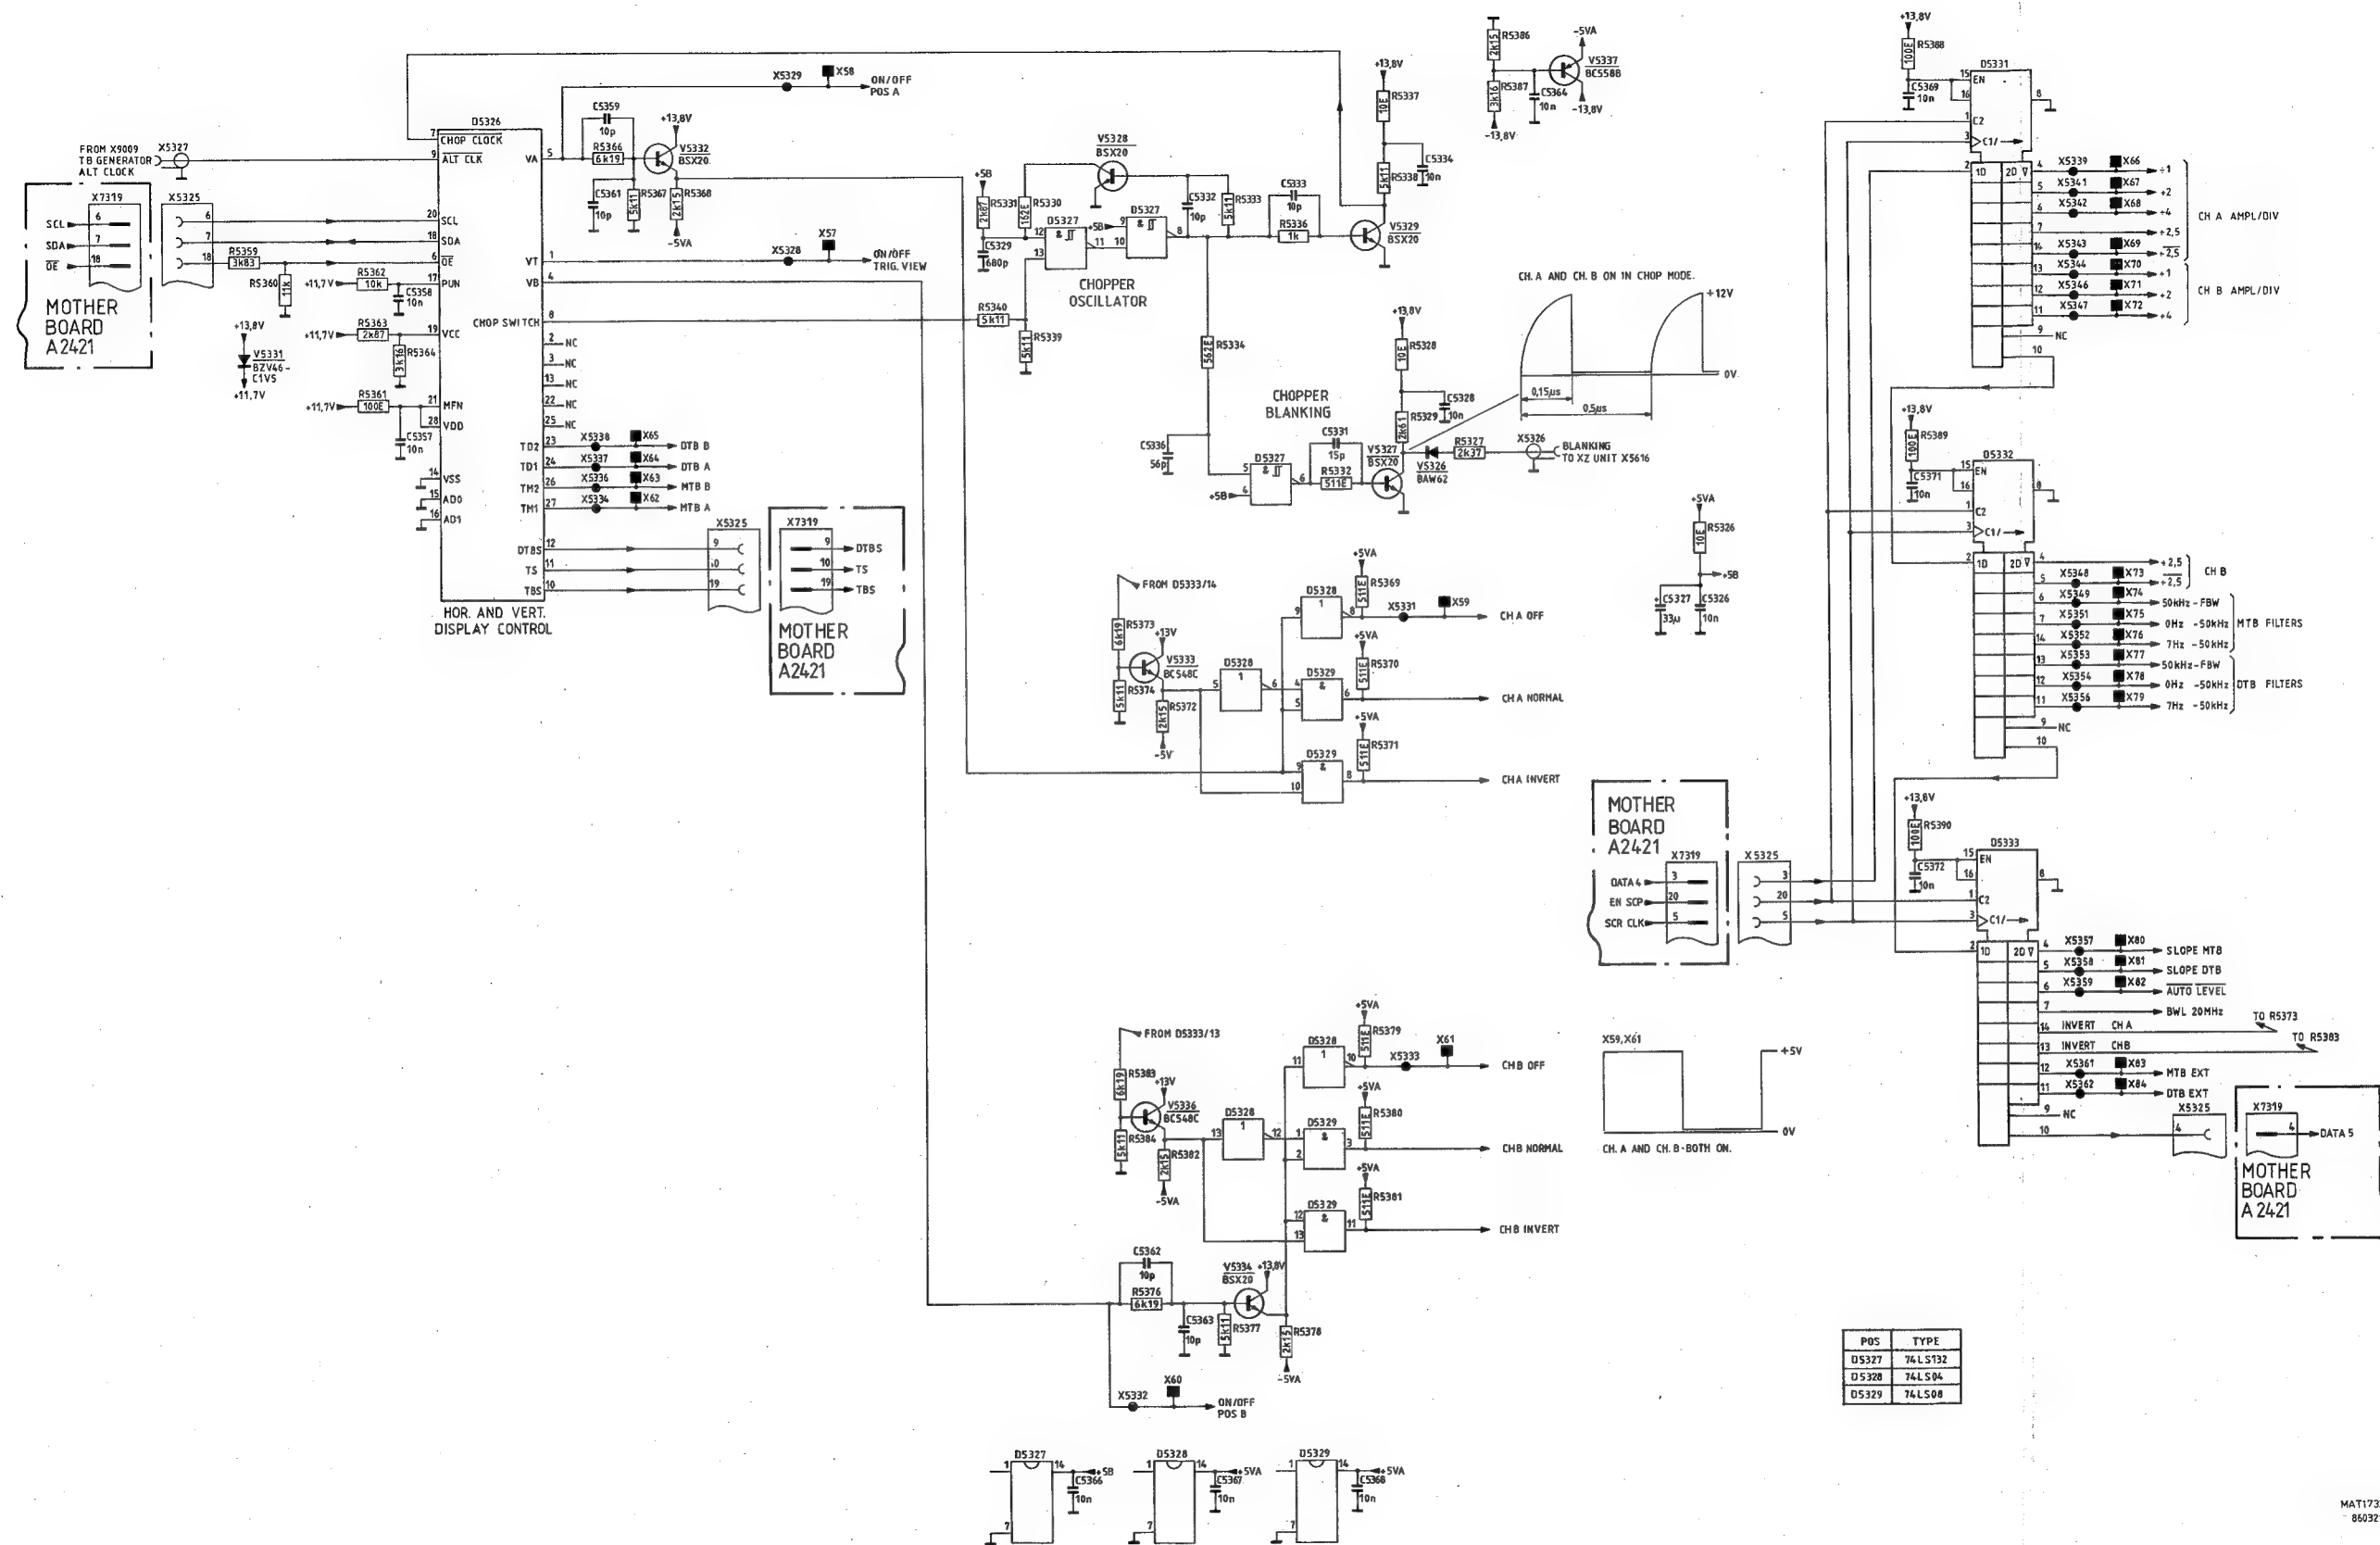

Fig.13.4. Signal unit, circuit diagram 3 (Control circuits)
13.3. CIRCUIT DESCRIPTION OF DIAGRAM 3 (see fig.13.4.)